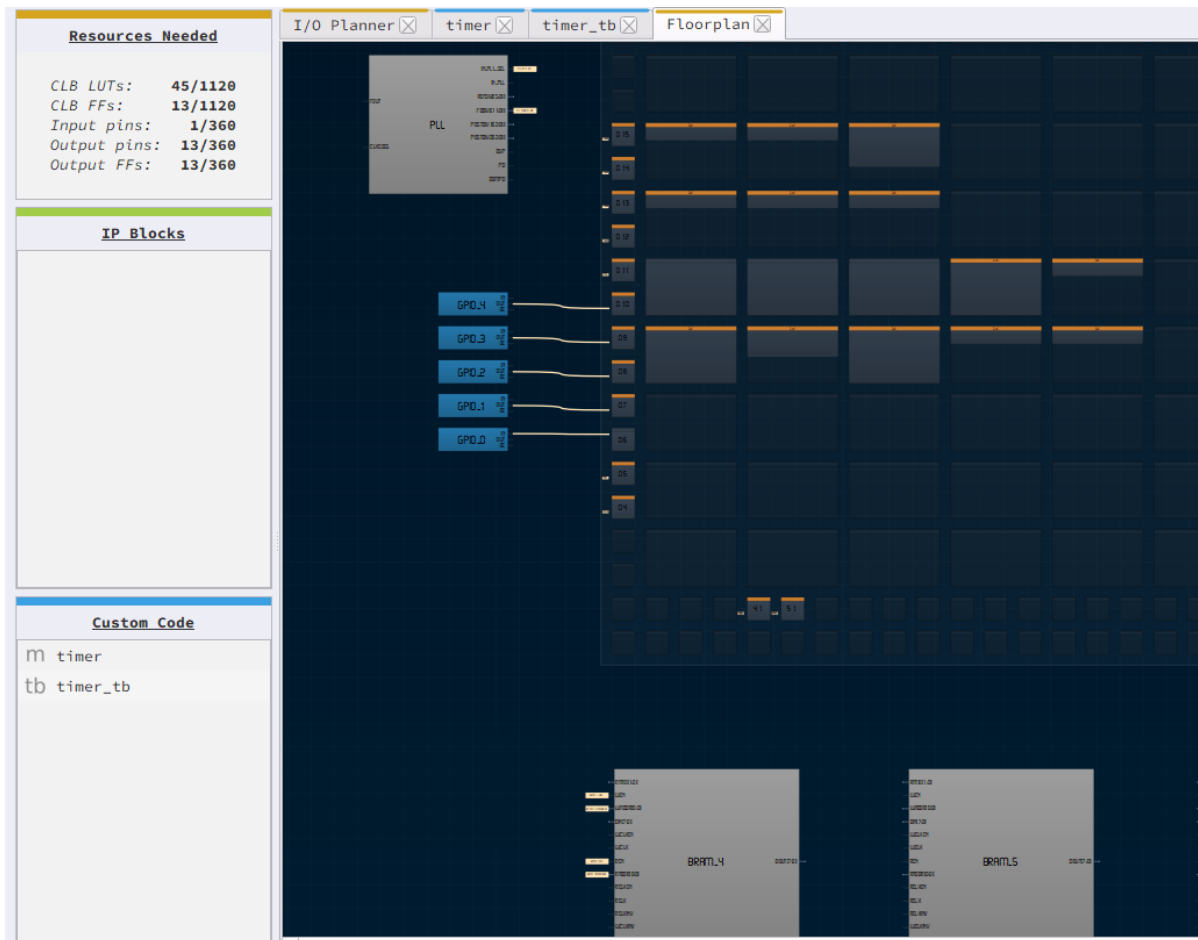

Figure 3: Countdown Timer CLB Utilization
The Floorplanner tab in the FPGA Editor shows the placement of CLBs and FFs (Figure 3). The resource utilization is shown in the top left corner.
8. Now click on the Floorplan tab and see the CLB utilization (Figure 3). Press the Ctrl and the mouse wheel to zoom-in. Confirm that the IOs selected in the IO Planner are shown in the floorplan.